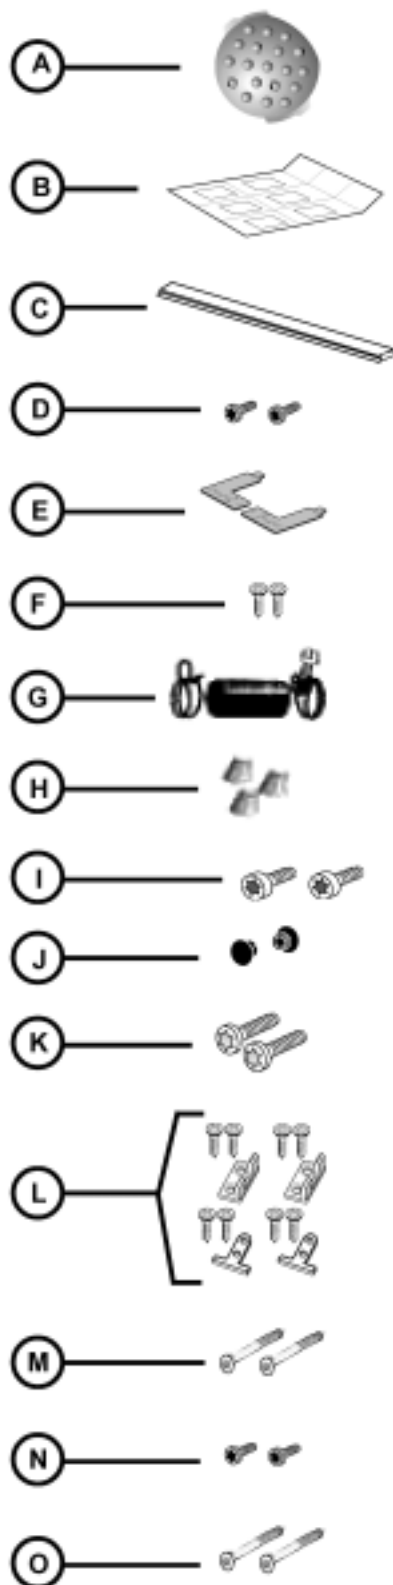

Figure 1/illus. 1
Accessory Parts for your dishwasher will come in one or more plastic bags. Check to make sure that the parts shown in Figure 1 are included with your model (NOTE: Illustrations are not to scale). If any parts are missing, contact your dealer immediately.
- Extra Tall Item Sprinkler (Figure 1, letter A)
SHI and SHV models also have SHI/SHV Panel Installation Template Sheet (Figure 1, letter B).
SHY66 and SHX56 models also have a Cotton Insulation Strip (Figure 1, letter C).